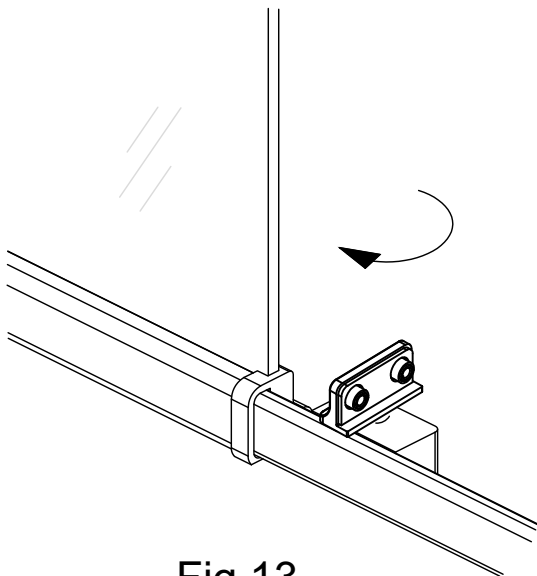

Fig 13
- 2、 Install one **Pivot (B)** into the pivot bases of the **Bottom Rails (A)**. **Note:** The another **Pivot (B)** is installed next step. (Fig 13)